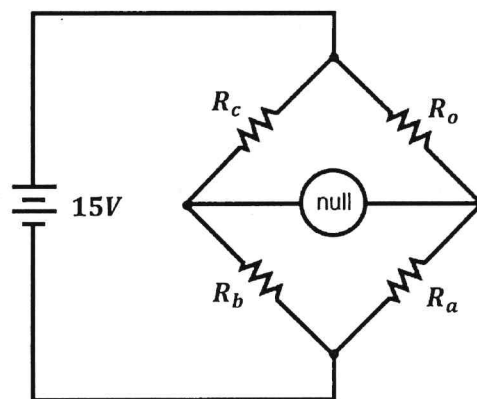

Fig. 2
- (b) If the Chromium thermistor (R_0) is connected into a bridge circuit and supplied with $15V$ as shown in Fig. 2. Calculate the voltage that the thermistor must resolve to define 1°C change in temperature. Consider a balanced condition $R_0 = R_a = R_b = R_c = 100k\Omega$ and temperature changes from 0 to 45°C . [4mks]